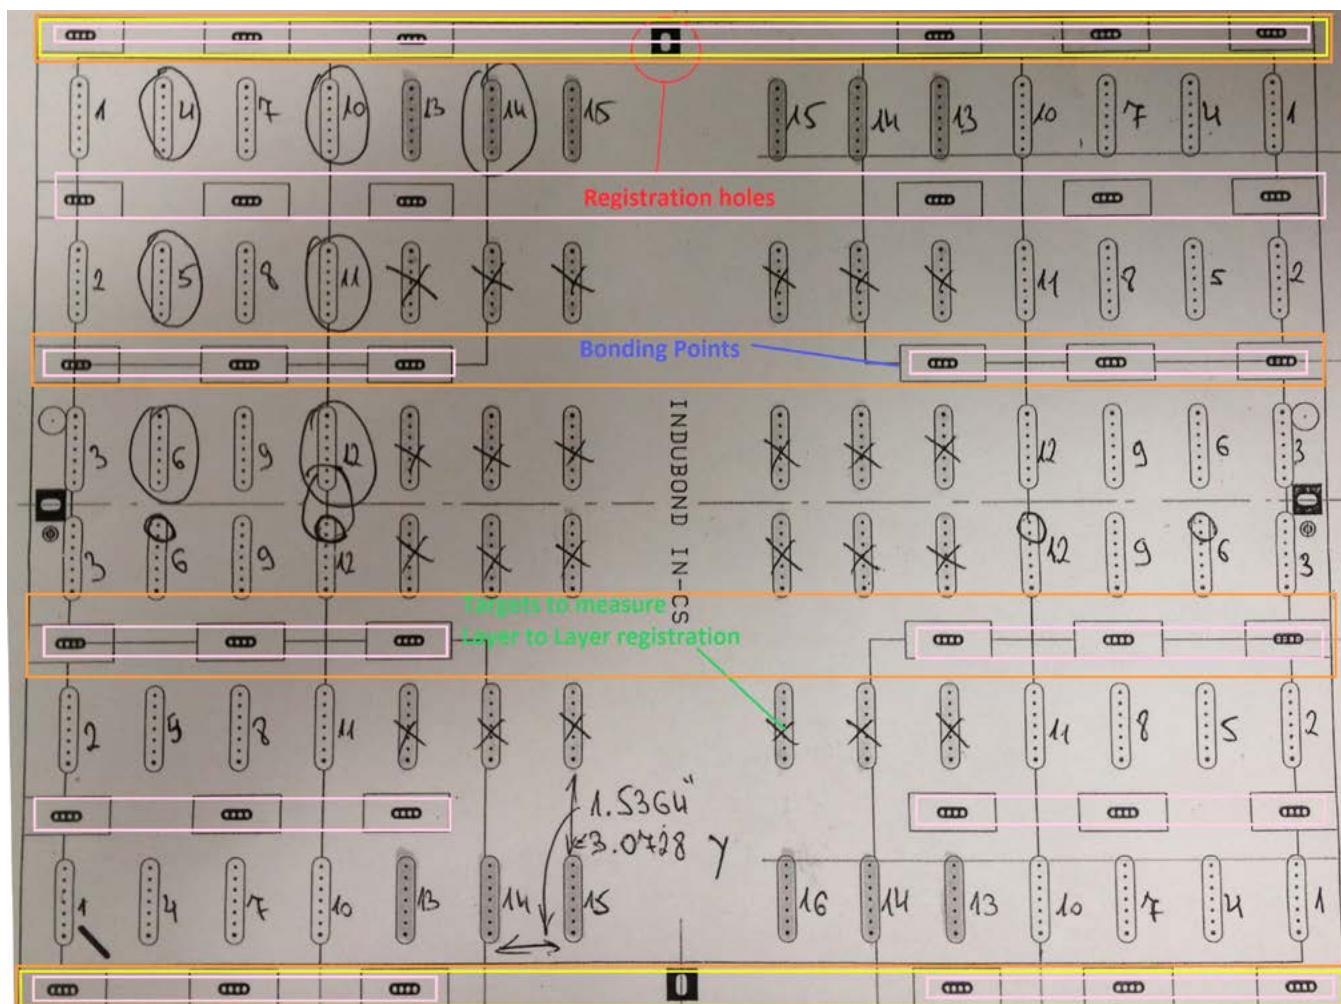

Figure 9: Test panel with four registration holes, bonding locations, targets to measure layer-to-layer registration, and bonding groups.
production panel. To quantify the distortions and inner-layer movements, we placed specific targets on each inner layer approximately every 3" in both the X and Y axes. These targets formed a 72-point matrix, which allowed us to measure the relative movement between the individual layers following lamination throughout the panel (Figure 9).
In order to evaluate the difference between standard pin lamination, pinless lamination and the InduBond® RFX pinless lamination methods, a total of 24 panels were manufactured and divided in three groups (Figure 9):
- Eight panels were bonded only in the panels' perimeter edges (i.e., galvanic frame), labeled group C (yellow on Figure 9)
- Eight panels more were bonded in the galvanic frame and also internally close to the center of the panel, labeled group B (orange on Figure 9)
- Eight panels were bonded all around the surface of the panel, labeled group A (pink on Figure 9)
As mentioned before, eight panels were bonded just on the edges; eight more were bonded in the edges and internally close to the center of the panel, and the last eight panels were bonded in the edges and internally all over the panel surface—approximately every 2–3" (Figure 9).
The pictures show the results of the X-ray measurements just at one set of targets located on the corners of the panels, where the dimensional distortions are usually the largest (target 4 on Figure 9).